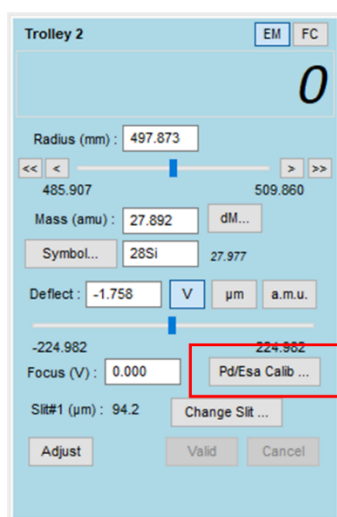

Figure 416: "Pd/ESA Calib" in the Tuning window
- In the TUNING window, click on "Pd/ESA calib" to save the Pd and ESA values into the SETUP (Figure 416). From now on, Pd and ESA values will compensate so that the beam will always hit the EM at the same position.